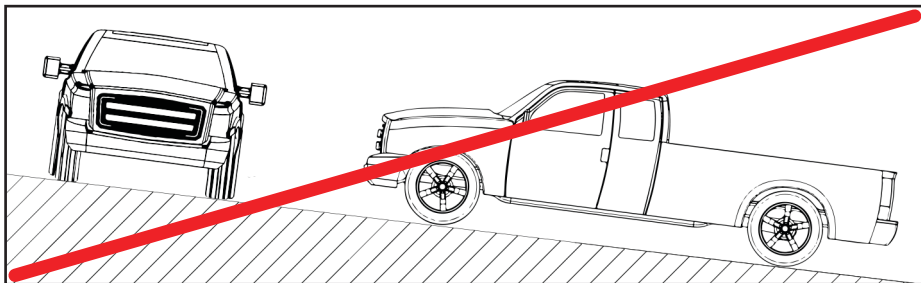

Figure 12 — Do not exceed 20° grade
- ☐ Ensure the vehicle the system is mounted to is not parked on grades exceeding 20° as this will affect lubrication and air/oil separation (Figure 12).